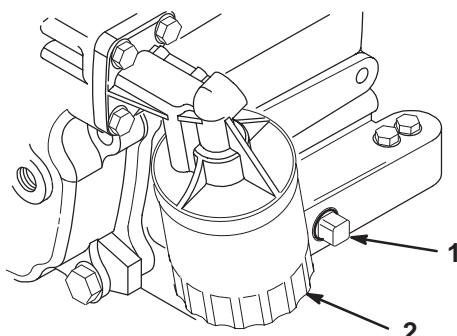

Figure 19
- Remove the drain plug (Fig. 19) and let the oil flow into a drain pan. When the oil drains completely, install the drain plug.
- Remove the existing oil filter (Fig. 19). Apply a light coat of clean oil to the new filter gasket.